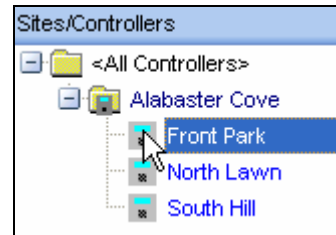

Figure 16.1.3A
2. Next select a controller by clicking on it to highlight (Figure 16.1.3A).